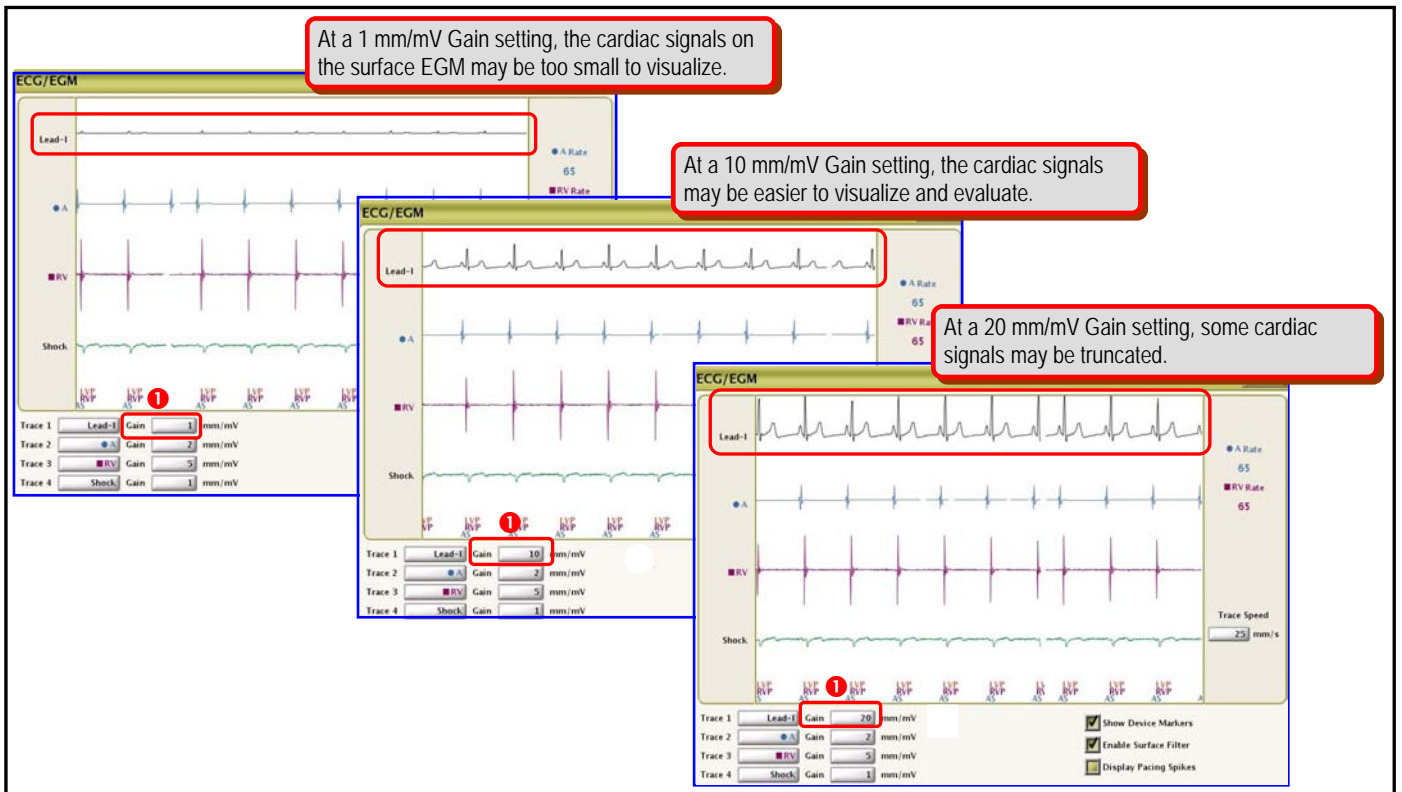

Figure 4. Real-time EGMs depicting various Gain settings.
The user can adjust the Gain setting ① on a surface ECG to view and evaluate cardiac signals. The most effective Gain setting will vary for different signals. Three gain settings of the same rhythm are depicted in Figure 4.